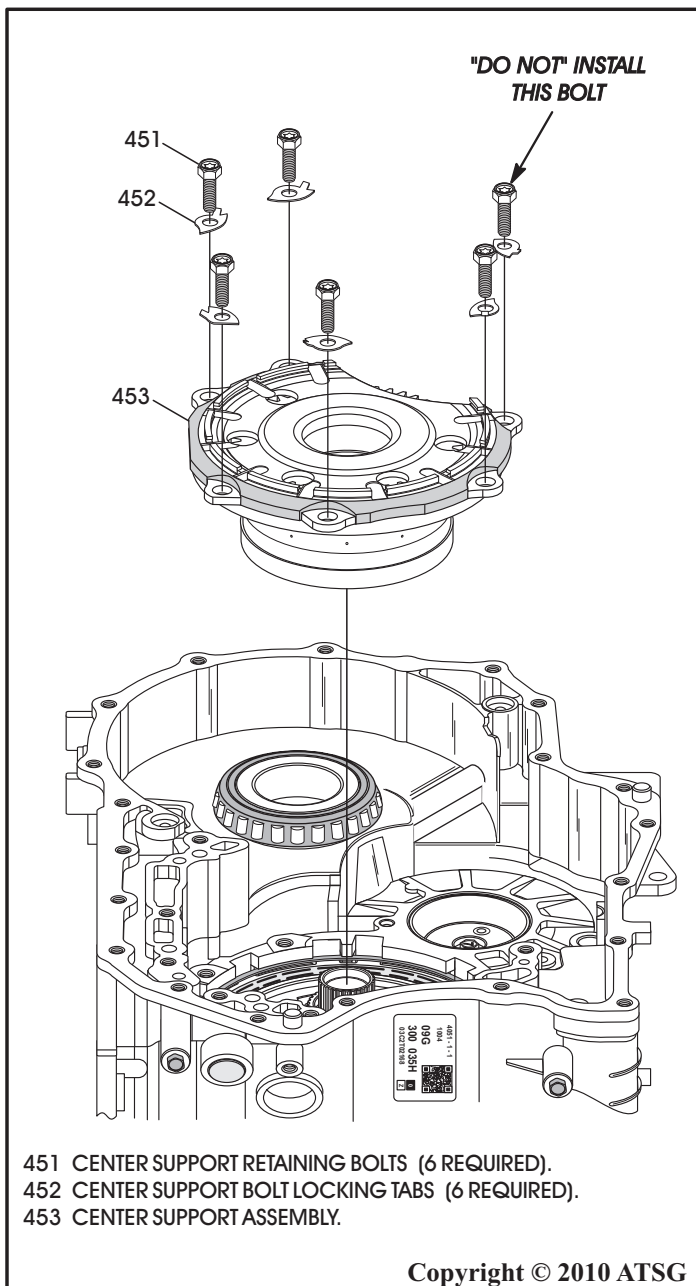

Figure 172
1. Install the completed center support assembly, as shown in Figure 172, by rotating back and forth into position.
2. Install five of the six center support retaining shown in Figure 172, and hand tighten only the five installed bolts.
25. Now install the last center support retaining bolt, as shown in Figure 172, and torque all six bolts to 22 N·m (16 ft.lb.), using a 50 Torx bit.